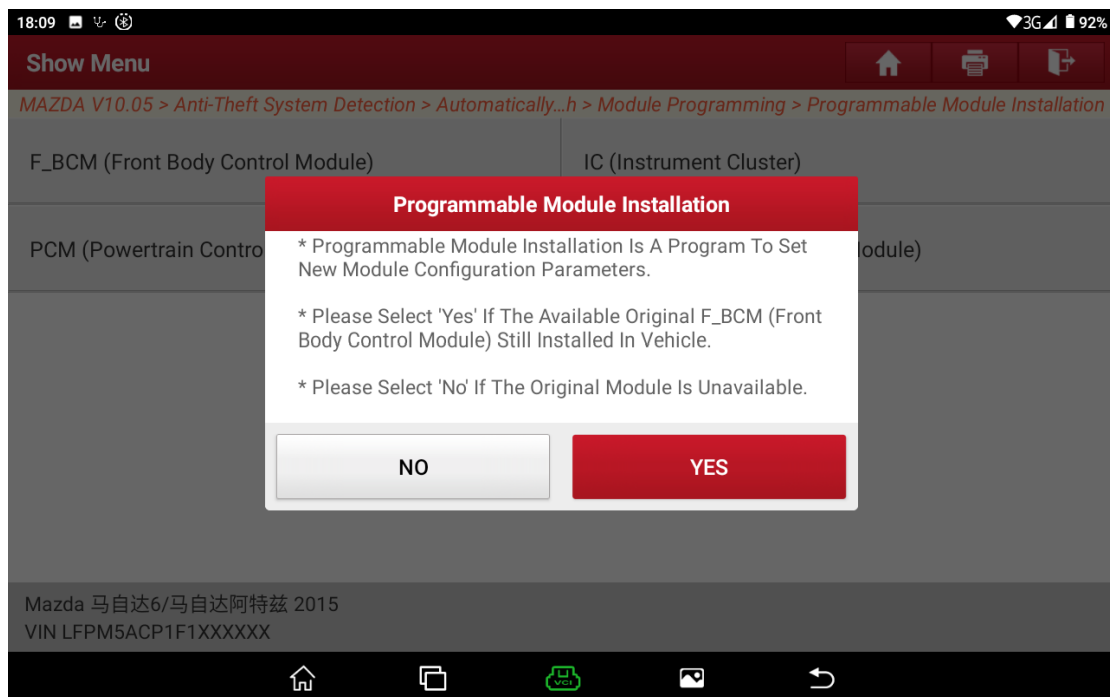

Figure B9
7. The operation conditions are displayed. Choose [No] to exit the function, or choose [Yes] to access the next step. See Figure B9.